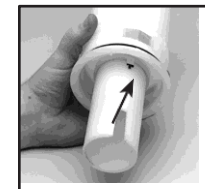
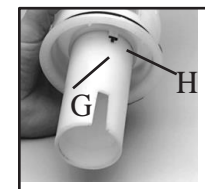

Figure 8.
Figure 9.
8. Next, assemble the piston cylinder. First, lubricate the O-rings on the piston cylinder, being careful not to get any on the valve plate. Screw the piston cylinder clockwise into the pressure cylinder until it is tight and the bottom O-ring is no longer seen. Figure 8. When properly seated the notch on the piston cylinder (G) will line up with the indent on the pressure cylinder (H). Figure 9.